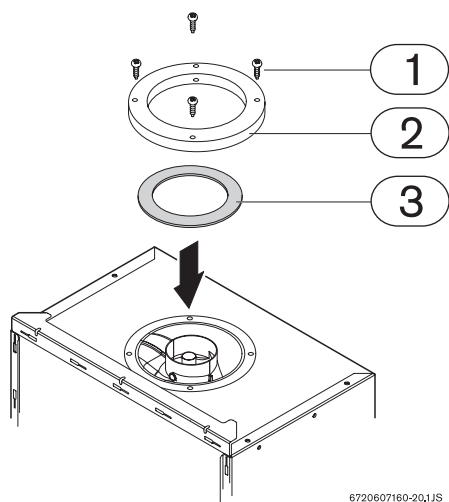

Fig. 12
To ensure the correct operation of the appliance, certain flue lengths require one of two flue restrictor rings to be fitted to the air inlet. (Fig. 12).
Unfasten the fixing screws (Fig. 12, pos. 1) securing the flue support ring (Fig. 12, pos. 2).
Place the restrictor ring (Fig. 12, pos. 3) between the flue support ring and the appliance sealed box, align the holes and re secure.